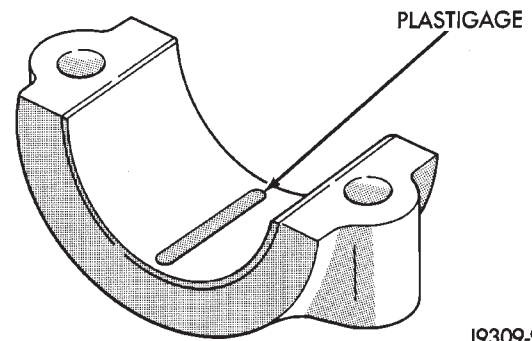
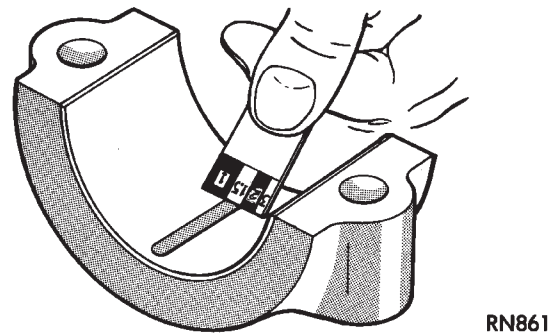

Fig. 2 Plastigage Placed in Lower Shell
Fig. 3 Clearance Measurement
(3) Place a piece of Plastigage across the entire width of the bearing shell in the cap approximately 6.35 mm (1/4 inch) off center and away from the oil holes (Fig. 2). (In addition, suspect areas can be checked by placing the Plastigage in the suspect area). Torque the bearing cap bolts of the bearing being checked to the proper specifications.
(4) Remove the bearing cap and compare the width of the flattened Plastigage (Fig. 3) with the metric scale provided on the package. Locate the band closest to the same width. This band shows the amount of clearance in thousandths of a millimeter. Differences in readings between the ends indicate the amount of taper present. Record all readings taken. Refer to Engine Specifications. **Plastic-Gage generally is accompanied by two scales. One scale is in inches, the other is a metric scale.**
(5) Plastigage is available in a variety of clearance ranges. The 0.025-0.076mm (.001-.003 inch) is usually the most appropriate for checking engine bearing proper specifications.
(1) Rotate the crankshaft until the connecting rod to be checked is at the bottom of its stroke.
(2) Remove oil film from surface to be checked. Plastigage is soluble in oil.
(3) Place a piece of Plastigage across the entire width of the bearing shell in the bearing cap approximately 6.35 mm (1/4 inch.) off center and away from the oil hole (Fig. 2). In addition, suspect areas can be checked by placing plastigage in the suspect area.
(4) Before assembling the rod cap with Plastigage in place, the crankshaft must be rotated until the connecting being checked starts moving toward the top of the engine. Only then should the cap be assembled and torqued to specifications. **Do not rotate the crankshaft while assembling the cap or the Plastigage may be smeared, giving inaccurate results.**
(5) Remove the bearing cap and compare the width of the flattened Plastigage (Fig. 3) with the metric scale provided on the package. Locate the band closest to the same width. This band shows the amount of clearance in thousandths of a millimeter. Differences in readings between the ends indicate the amount of taper present. Record all readings taken. Refer to Engine Specifications. **Plastigage generally**